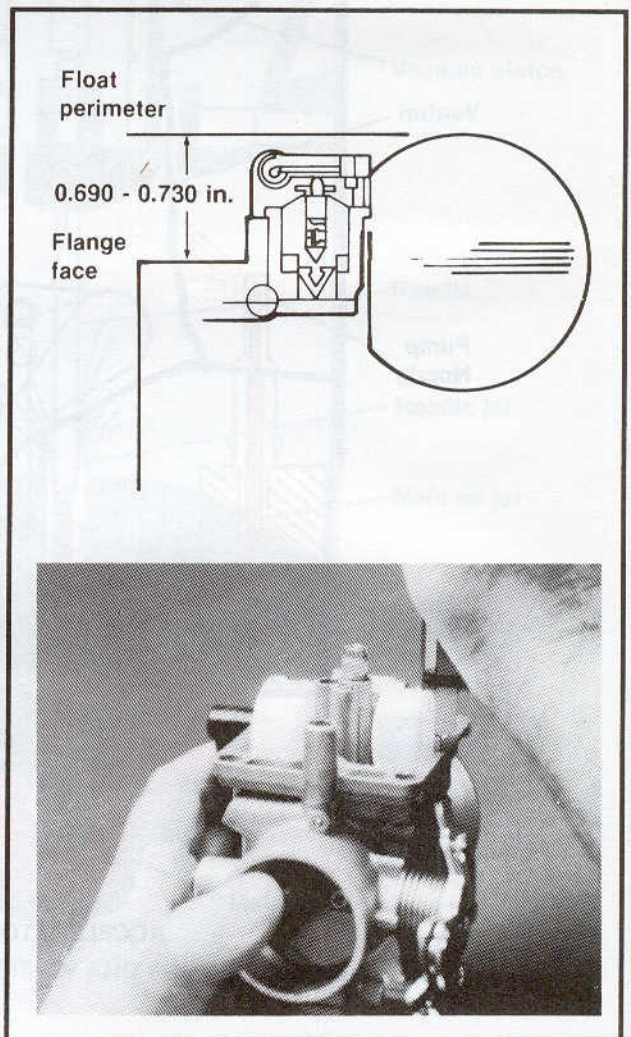

Figure 4-10. Float Adjustment
3. See Figure 4-10. Turn carburetor over, so float is up. Use a vernier or dial caliper depth gauge to measure from the carburetor O-ring flange face to the perimeter of the float. Be careful not to push on float while measuring.